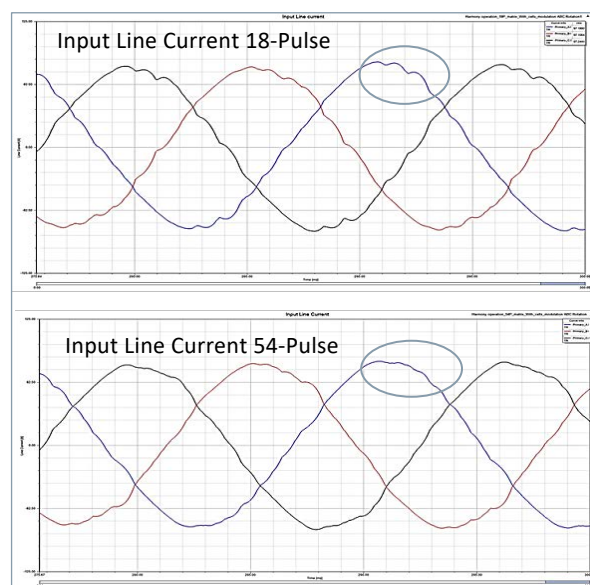

Figure 21: Input line current waveforms
IEEE 519-2014 defines levels for Total Current Demand Distortion (TDD(I)). Most manufacturers measure and show cumulative amount of harmonic distortion or Total Harmonic Current Distortion (THD(I)). IEEE requires distortion measured at 100% load, at this point THD(I) equals to TDD(I). The improvement in current waveforms is shown in Figure 21.